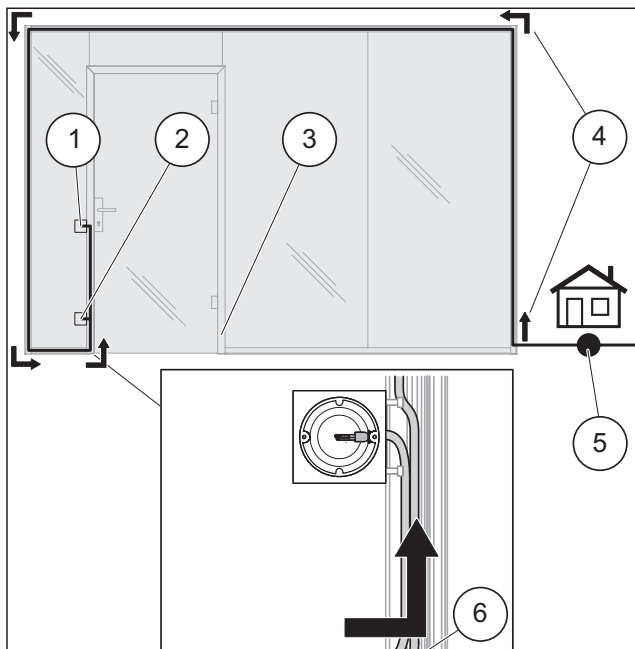

Abb. 8 Example of cable routing through the mounting profile and the door frame profile
1. Refer to the requirements for the installation position of the electro module (see example, Abb. 8).